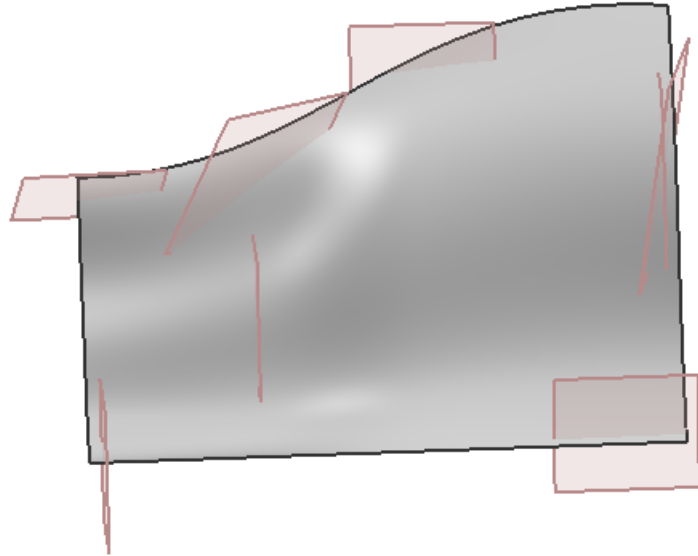

Figure 2–19
1. Open **MODEL\_SETUP\_A.prt**. The model displays as shown in Figure 2–19.